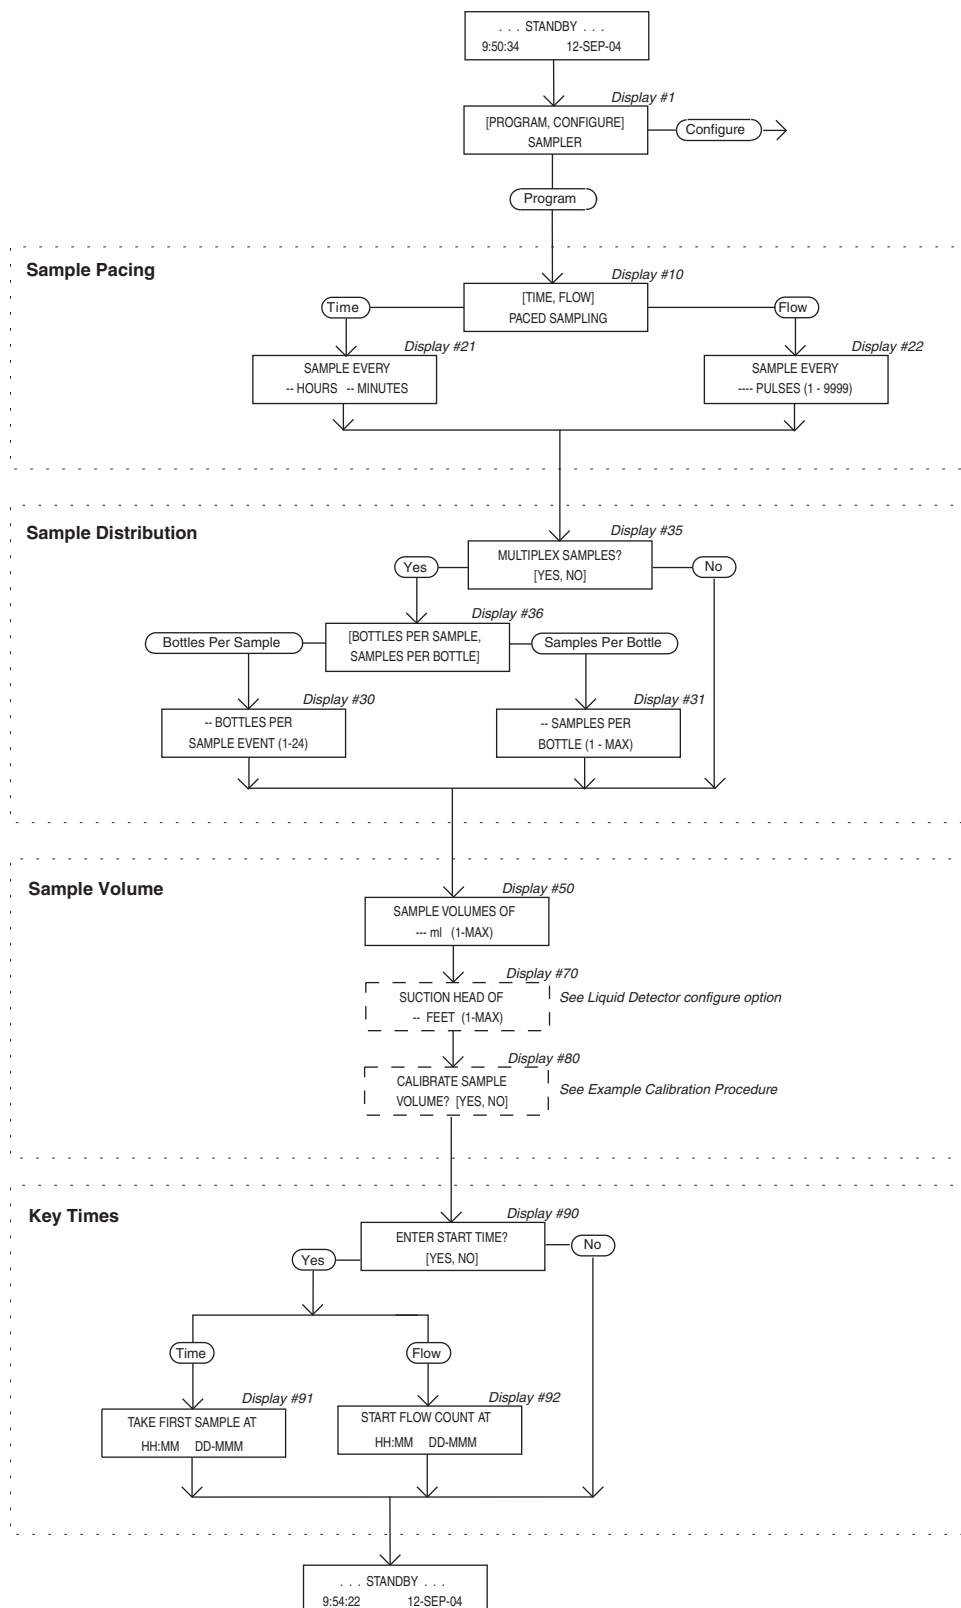

Figure 3-8 Basic Programming Mode: Program Sequence Structure
Flow charts accompany examples for both programming modes. These charts diagram the program sequence structure for each mode. Figure 3-8 charts the Basic Programming Mode structure. Figures 3-10, 3-11, and 3-12 chart the structure of the Extended Programming Mode. The charts are provided to act as a "map" to the programming process. Both charts are divided into sections — Sample Pacing, Sample Distribution, Sample Volume, and Key Times — which correspond to the steps listed in the procedure discussed below. Each chart contains the input displays used in the sequence. The input displays on each chart are labeled with their display number so they can be cross-referenced with the listing found in Appendix D.
2. Press the ENTER/PROGRAM key to access the interactive state. Select “program.” Refer to Figure 3-8 for displays noted in Steps 3 to 6.